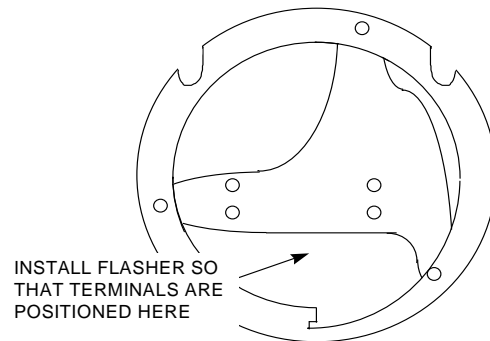

Figure 3-15
- k. Attach the mounting bracket between the base of the CG-6P lampchanger and flasher with **four** 10-32x1" screws supplied so that the outer ring of the bracket is above the flasher and the flasher's terminals are not covered, as shown in Figure 3-15. The wires from the WK-681 wiring kit must pass **inside** the bracket ring.